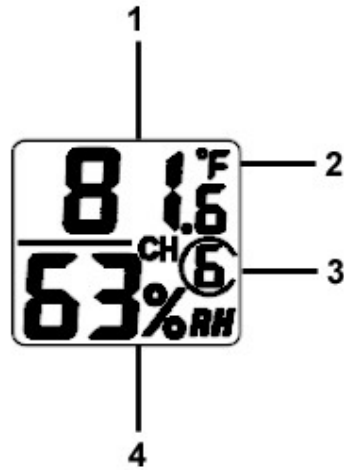

Figure 23
Verify the correct channel number (CH) and temperature units of measure (°F vs. °C) are on the display, as shown in Figure 23.
Verify the correct channel number (CH) and temperature units of measure ($^{\circ}\text{F}$ vs. $^{\circ}\text{C}$) are on the display, as shown in Figure 23.